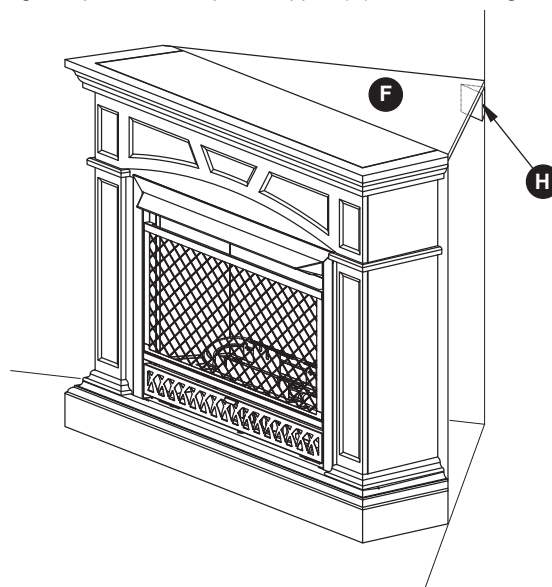

Figure 15
14. Install the Set Square Support (H) to the holes drilled in step 13, with ST5 Screw 2 3/8" (EE) as shown in Figure 15. This block is used to support the Top Triangle Panel (F). For thin walls, insert white key (HH) into wall anchor and push to "pop" open anchor wings.
15. Push fireplace into the corner so that the Top Triangle Panel (F) is resting on top of the Set Square Support (H) as shown in Figure 15.